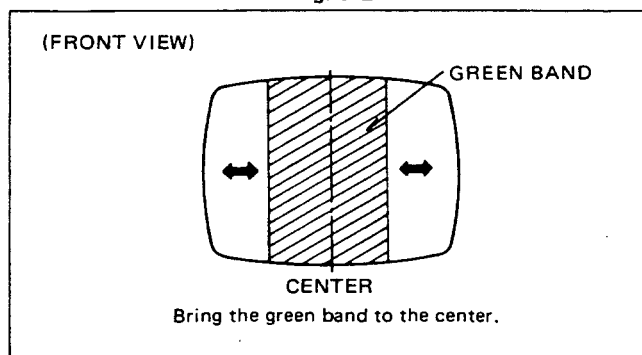

Fig. B-3
4. Turn the GREEN CUT-OFF VR to maximum and the RED and BLUE CUT-OFF VRs to minimum. Then adjust the SCREEN VR so that the green band can be seen best. (Fig. B-3.)